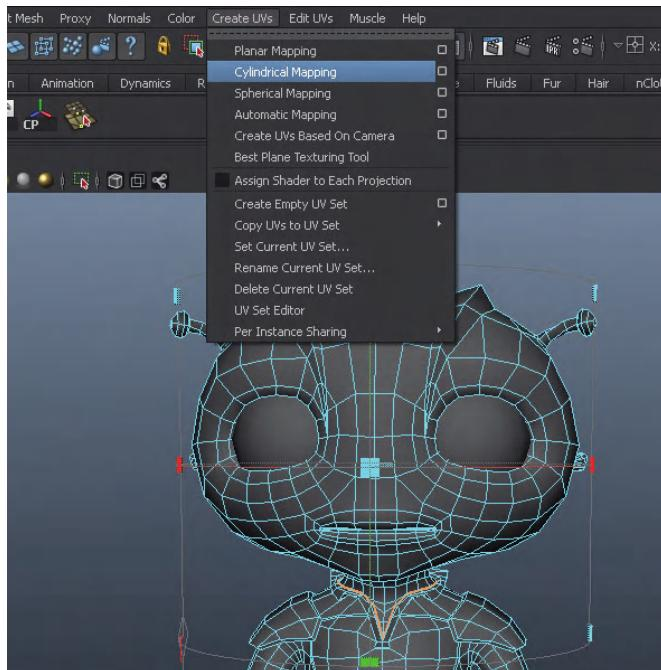

FIG 5.28 Cylindrical mapping.
Step 2: Create a cylindrical projection. Do this by choosing Polygons|Create UVs > Cylindrical Mapping (Fig. 5.28).